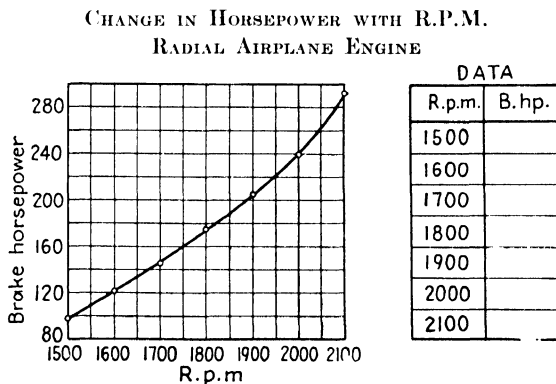

Fig. 147.
1. Make a table of data from the graph in Fig. 147.